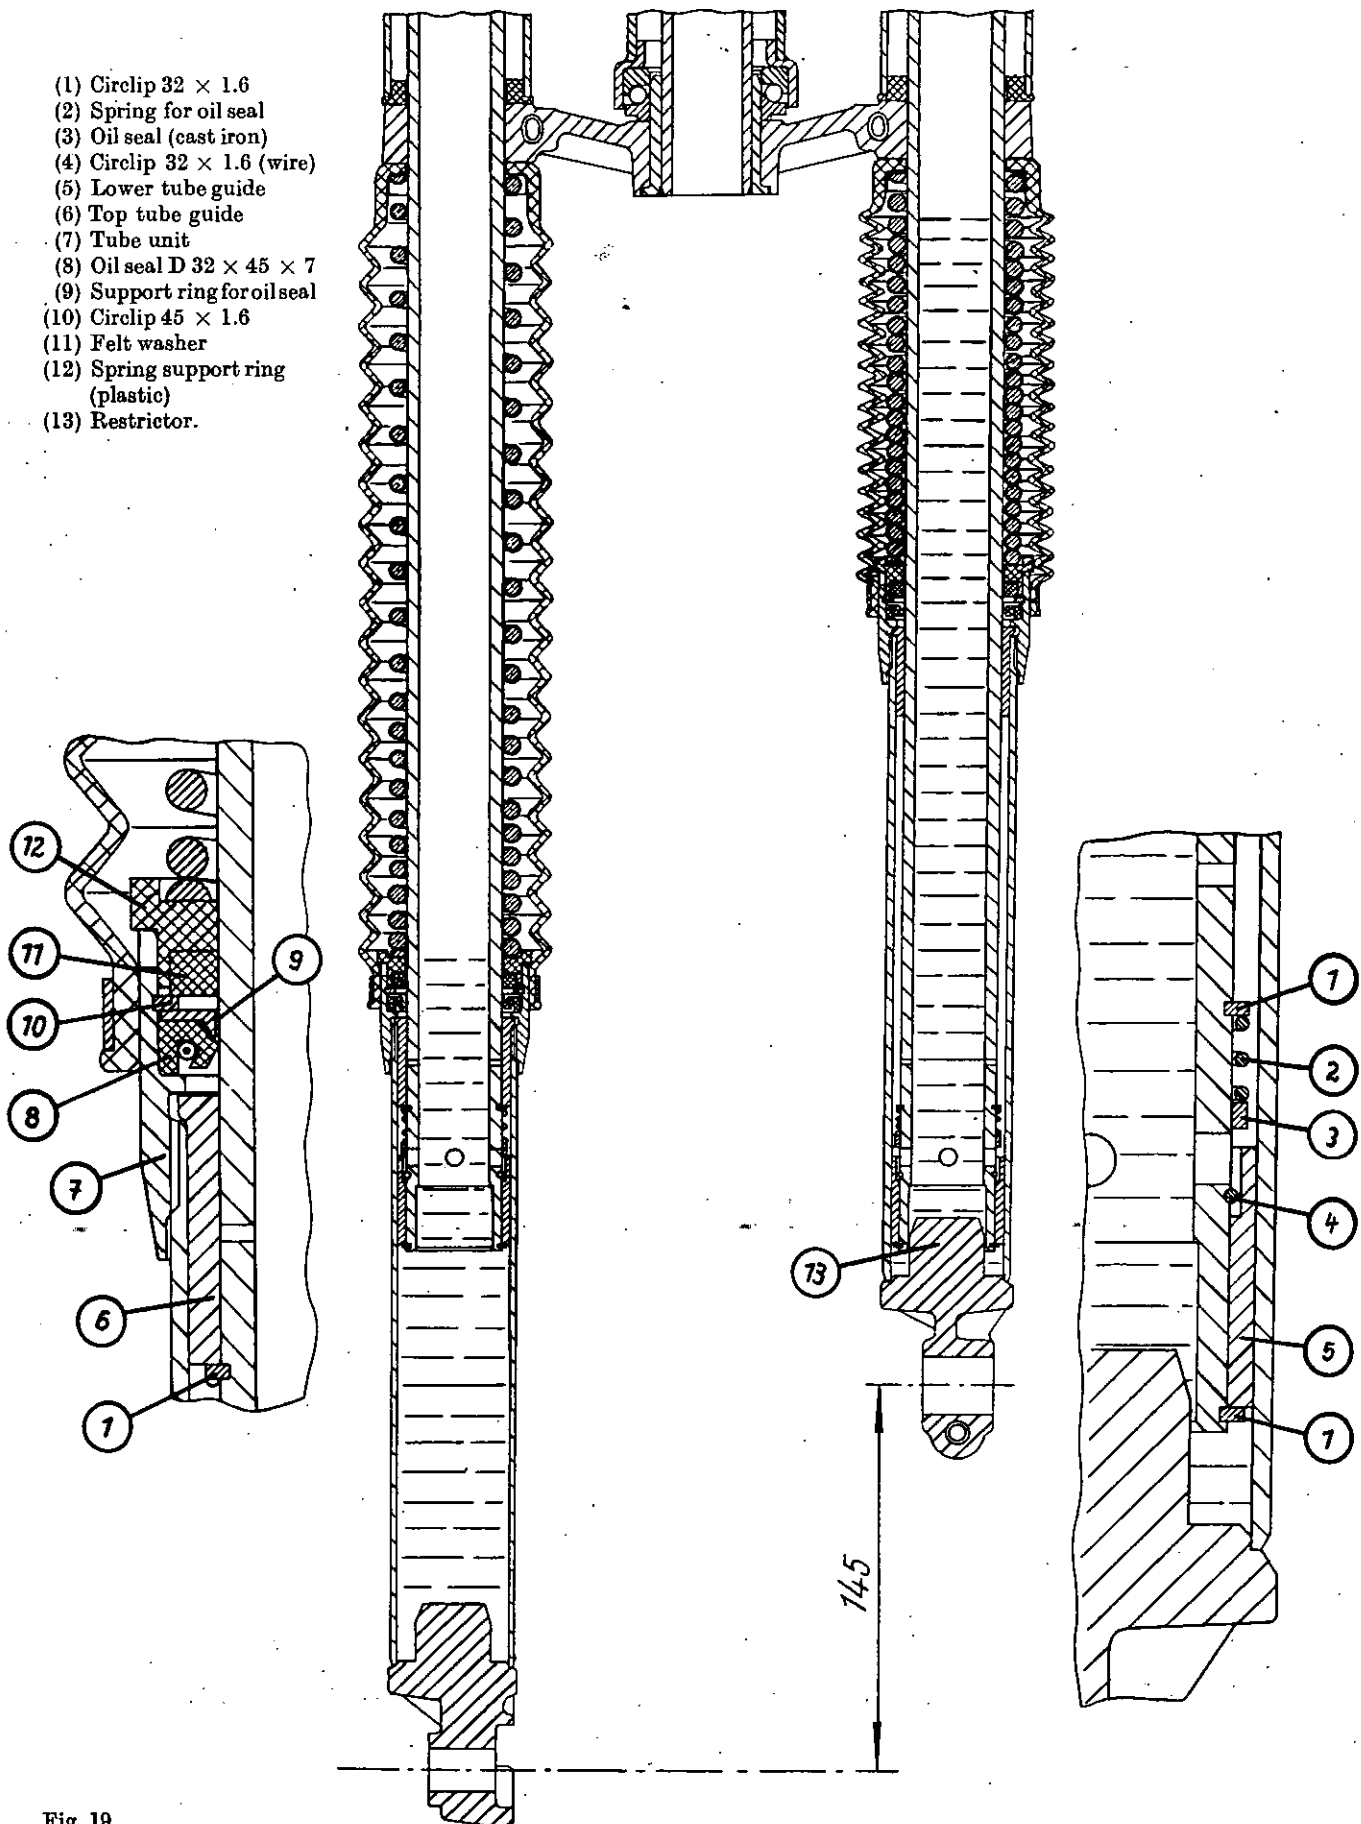

Fig. 19
- (7) Tube nut (thread M 42 × 1) with
- (8) Oil seal (D 32 × 45 × 7) and
- (9) Support ring and
- (10) Circlip (45×1.6) should be inserted as shown in Fig. 19 (2 ×). Please be advised, that within the stanchions, high pressures will be possible, approx. 20 at (290 lbs. sq. in.). The support ring for the oil seal has to support the so-called seal-lip against any deformation. The oil seal will not be worn out before covering approx. 30.000 kms under normal riding conditions.
- (11) Felt washer (2 ×) is fitted for additional lubrication. Clean out with petrol and lubricate.
- (12) Spring support ring (plastic) (2 ×)
- (13) Spring cap (2 ×) fitted inside the rubber cover.
- (14) Main spring — progressive type — (2 ×), size 274^{+5} mm. Under pre-tension 9 mm and travelway 145 mm, total tension will be 116.9 kp.
- (15) Stanchion (2 ×), for smooth operation chromium-plated 25 μm thickness.
Diameter of new stanchions in the main working-range (see Fig. 19) : $31.8 \begin{smallmatrix} -0.01 \\ -0.07 \end{smallmatrix}$ mm
The axial play of the stanchions must not exceed 0.05 mm, in putting them between the tips of a lathe or a similar device. The lower tube guide (1) and the parts belonging to it, should be assembled as shown in Fig. 19, (1) to (5).
Then assemble in this way: Felt ring, spring support ring, spring with rubber cover and spring cap — see Fig. 19.